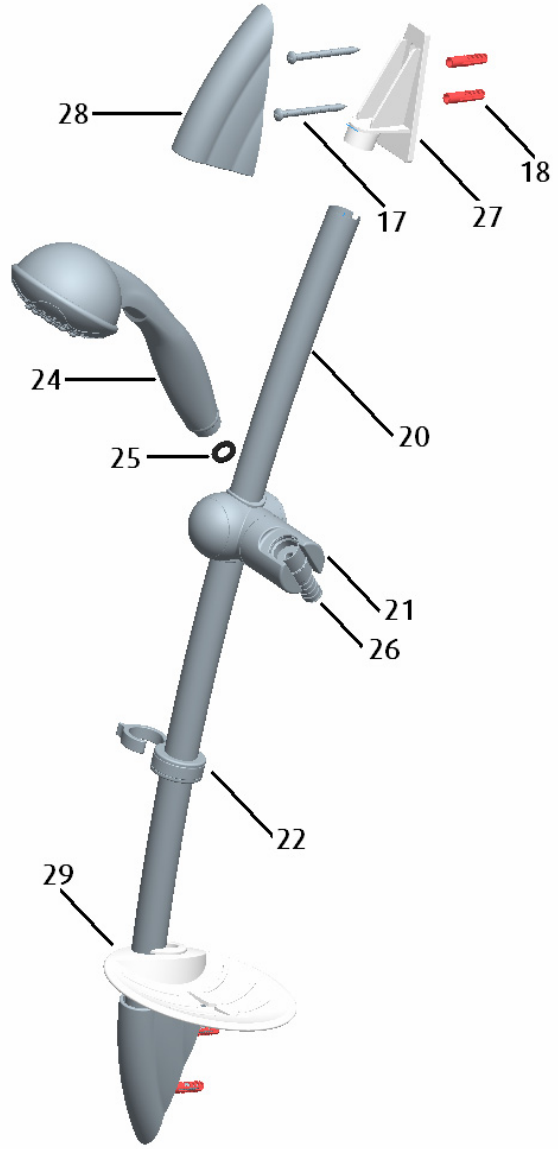

Fig. 2b
4.4 Multi Function Adjustable Riser Installation (See Fig. 2b, page 7)